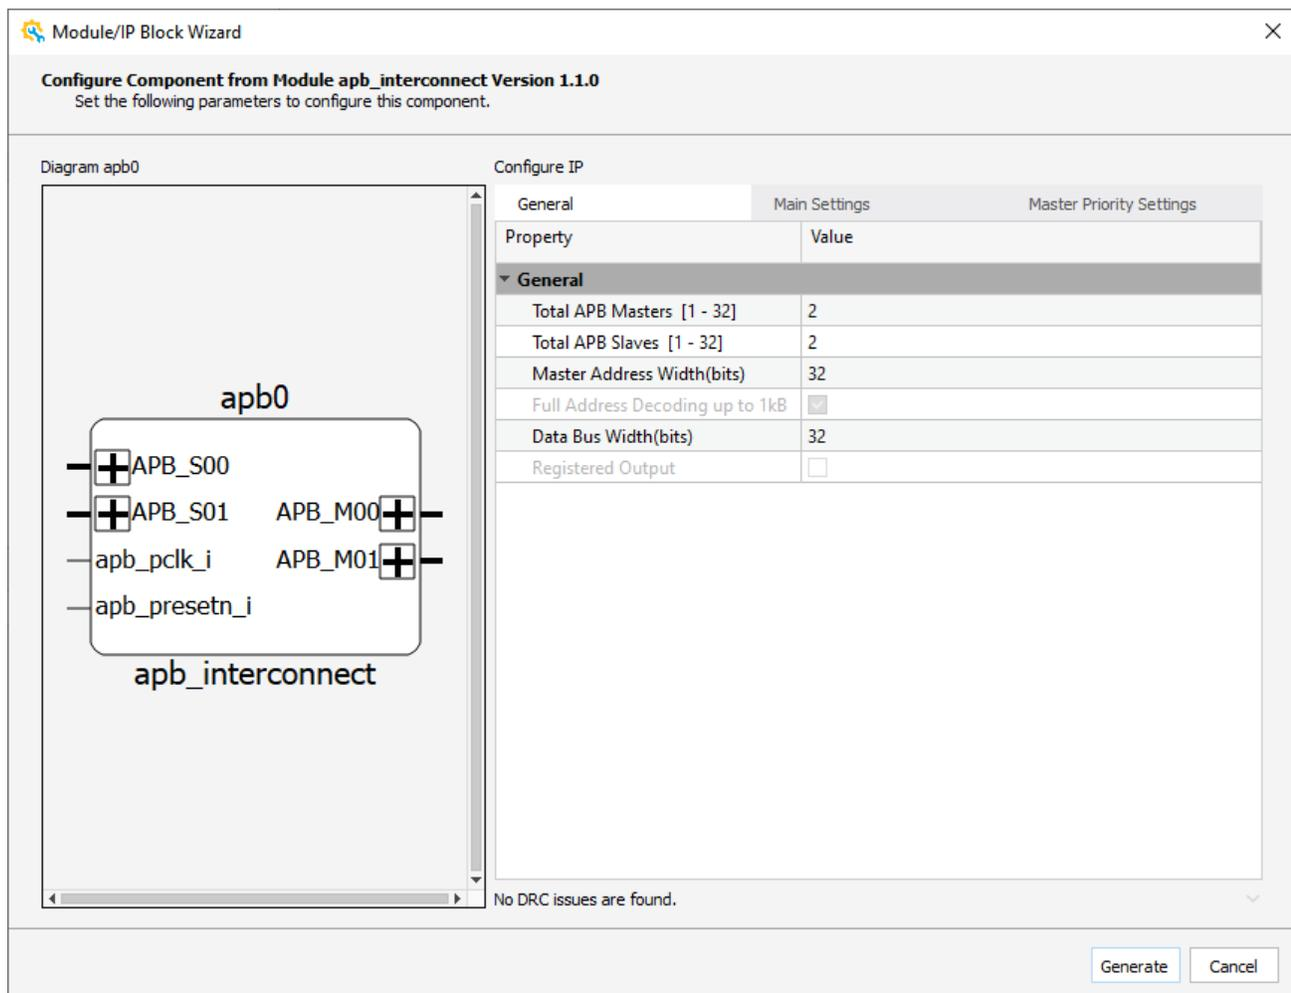

Figure 2.41. Module/IP Block Wizard – Configure Component
- a. Double-click the module, or right-click the module. Choose **Reconfig**. The Module/IP Block wizard (Figure 2.41) opens.